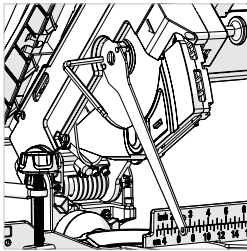

Fig. 6
- Use the hex key (provided) to unscrew the arbor screw. (Fig. 6)